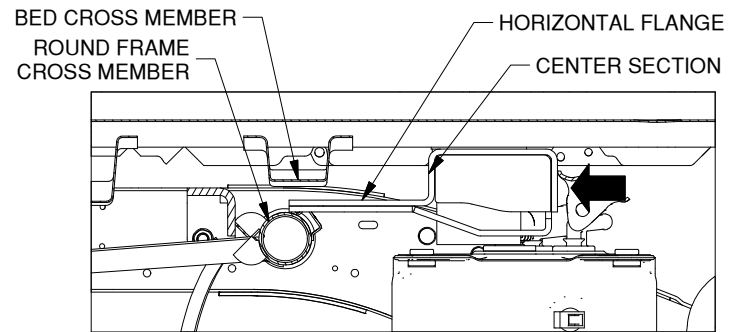

Figure D3: Cutaway view looking at center section from passenger side.
2. **Position center section.** Move the center toward the rear of the truck by passing the horizontal flange of the center section between the round frame cross member and the bed cross member directly above it. The raised portion of the center section should be under the 4" hole cut into the bed, see Figure D3.